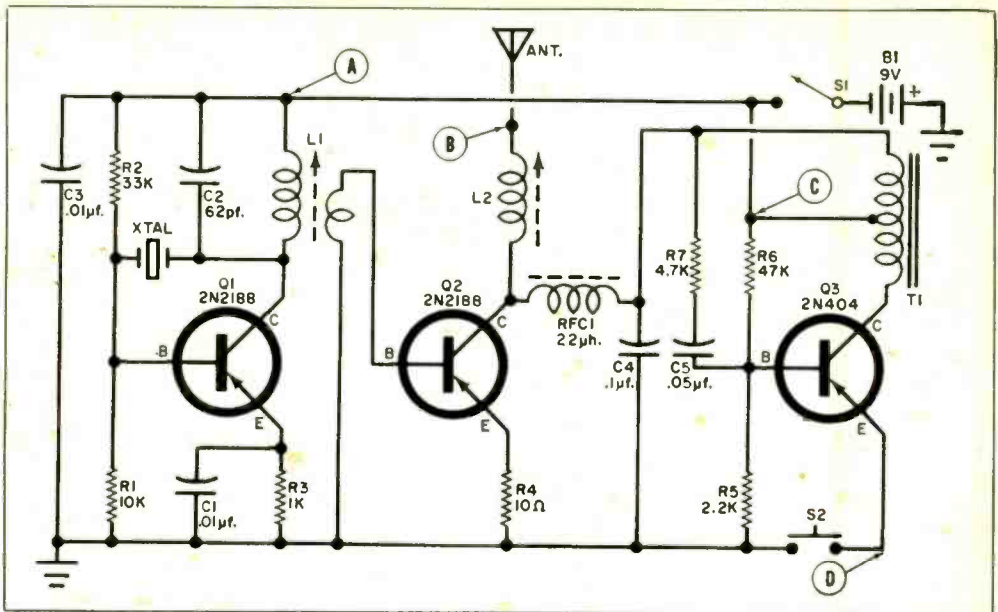

Fig. 6. Signals from the crystal-controlled oscillator (Q1) are modulated by tone generator (Q3) and boosted by the amplifier (Q2) for transmission.
**How It Works.** Transistor Q1 acts as a crystal-controlled oscillator operating on the channel determined by the crystal. Coil L1 and capacitor C2 form a resonant circuit at the crystal frequency. The crystal provides a feedback path from the collector to the base of Q1. Resistors R1 and R2 establish the bias at the base of Q1. Capacitors C1 and C3 bypass r.f., as shown in Fig. 6.